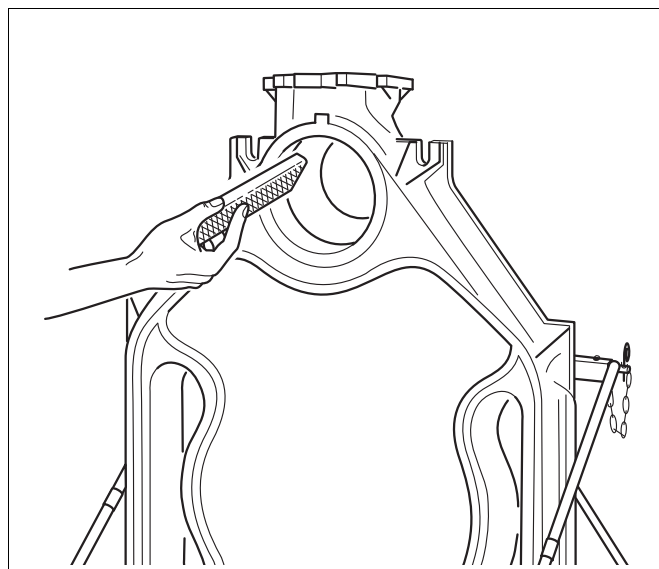

Fig. 12 Filing off flash
- File down any burrs on the hubs (Fig. 12).
- ▶ File down any burrs on the hubs (as shown in Fig. 12, page 19).